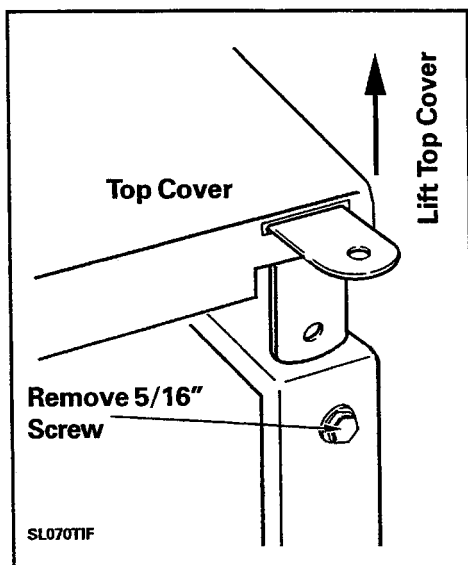

Figure 2-71
2. Remove two 5/16" hex head screws in upper front cabinet flange (Figure 2-71).